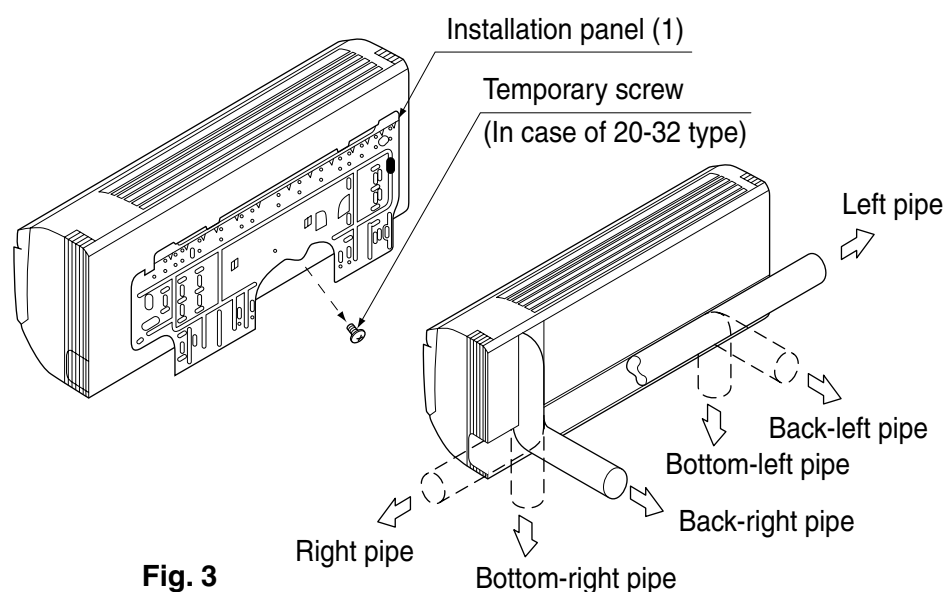

Fig. 3
(1) Open the piping through-hole.
- The refrigerant pipe and drain pipe can be passed out in one of 6 directions: left, bottom-left, back-left, right, bottom-right, and back-right. (Refer to Fig. 3)
- Using the paper pattern for installation (3), choose where to pass the piping out and open a through-hole ($\phi 80$) in the wall.
(Refer to Fig. 3)